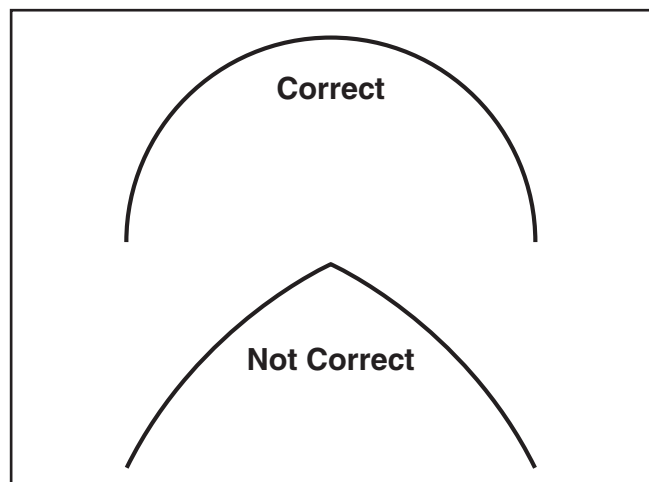

Figure 48. Comparison of correct and incorrect blade weld bends.
19. Test the strength and flexibility of the weld by bending the blade in an arc (with the weld at the top of the arc) similar in size and shape of the bandsaw wheels. The blade should bend smoothly without any angles (see **Figure 48**).